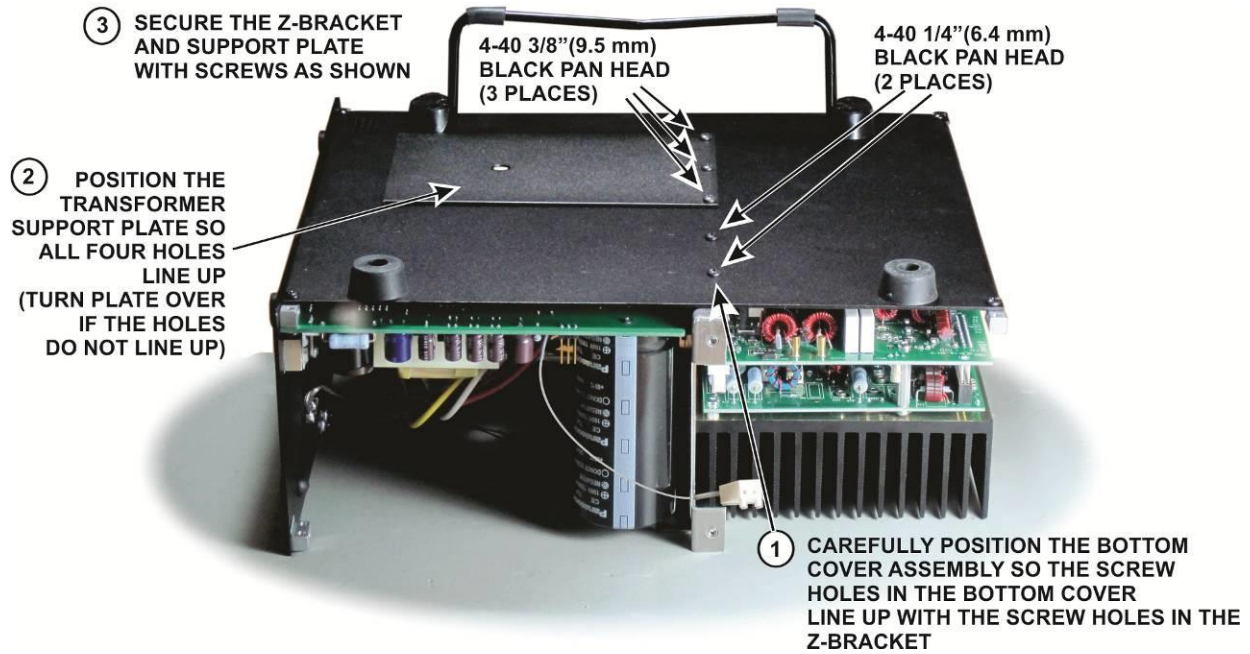

Figure 31. Installing the Z-Bracket and Transformer Support Plate in the Bottom Cover Assembly.
Reposition the bottom cover assembly and attach it to the transformer support plate and Z-bracket as shown in Figure 31.
□ Insert the transformer mounting bolt through the bottom cover as shown in Figure 46. If the fit is very tight, temporarily loosen the screws holding the transformer support plate (Figure 31) to better align the holes. **Some fender washers have a sharp edge on one side caused by the stamping process that cut the washer out of a larger sheet of steel. It may not be visible, but it is easy to feel by testing the edge on both sides with your finger. If present, orient the washer with the sharp edge toward the bottom cover.** Tighten the hardware securely and check to ensure the bolt head is tight against the bottom cover.